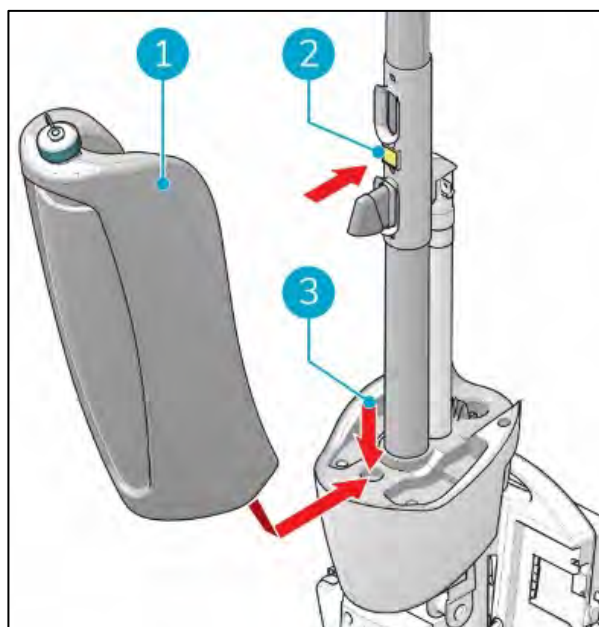

Figure 11
1. Put the bottom of the recovery tank (Figure 11, pos 1 and pos 3) on the front of the i-mop® XXL basic.
2. Push the top of the tank into place until you hear a "click" sound, the magnet (Figure 11, pos 2) will lock the solution tank into place.